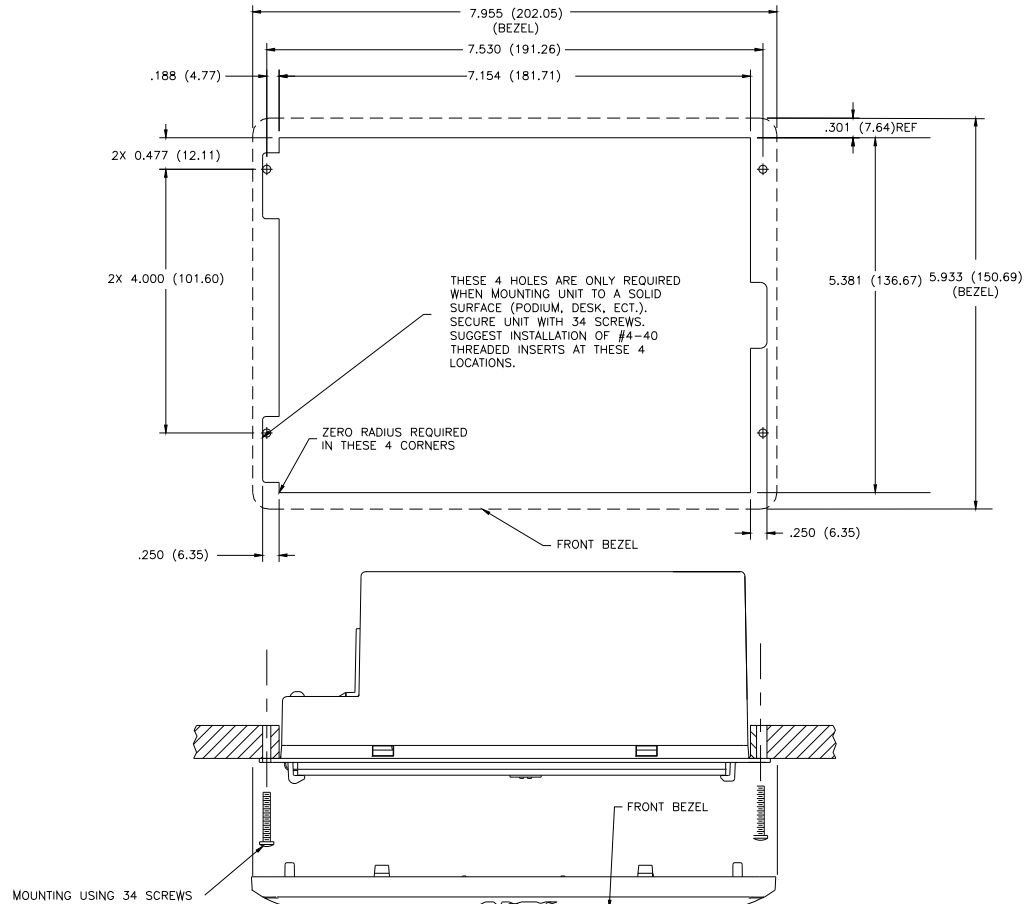

FIG. 15 NXD-700Vi Wall Mount panel dimensions using #4-40 mounting screws
- Refer to **SP-2258-01** for detailed installation dimensions (reproduced in FIG. 15).
2. Cut out the surface for the NXD Wall Mount unit using the dimensions shown in FIG. 15.